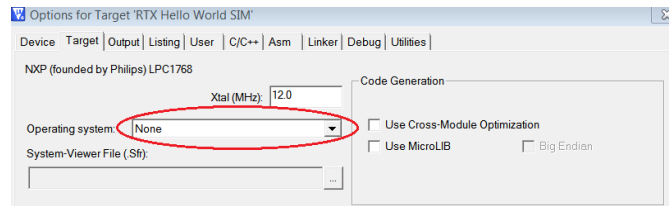

Figure 2.26: Keil IDE: Removing Linkage with Stocked RTX Library
2. Remove the pre-built RTX library by ARM from the target option setting (see Figure 2.26).